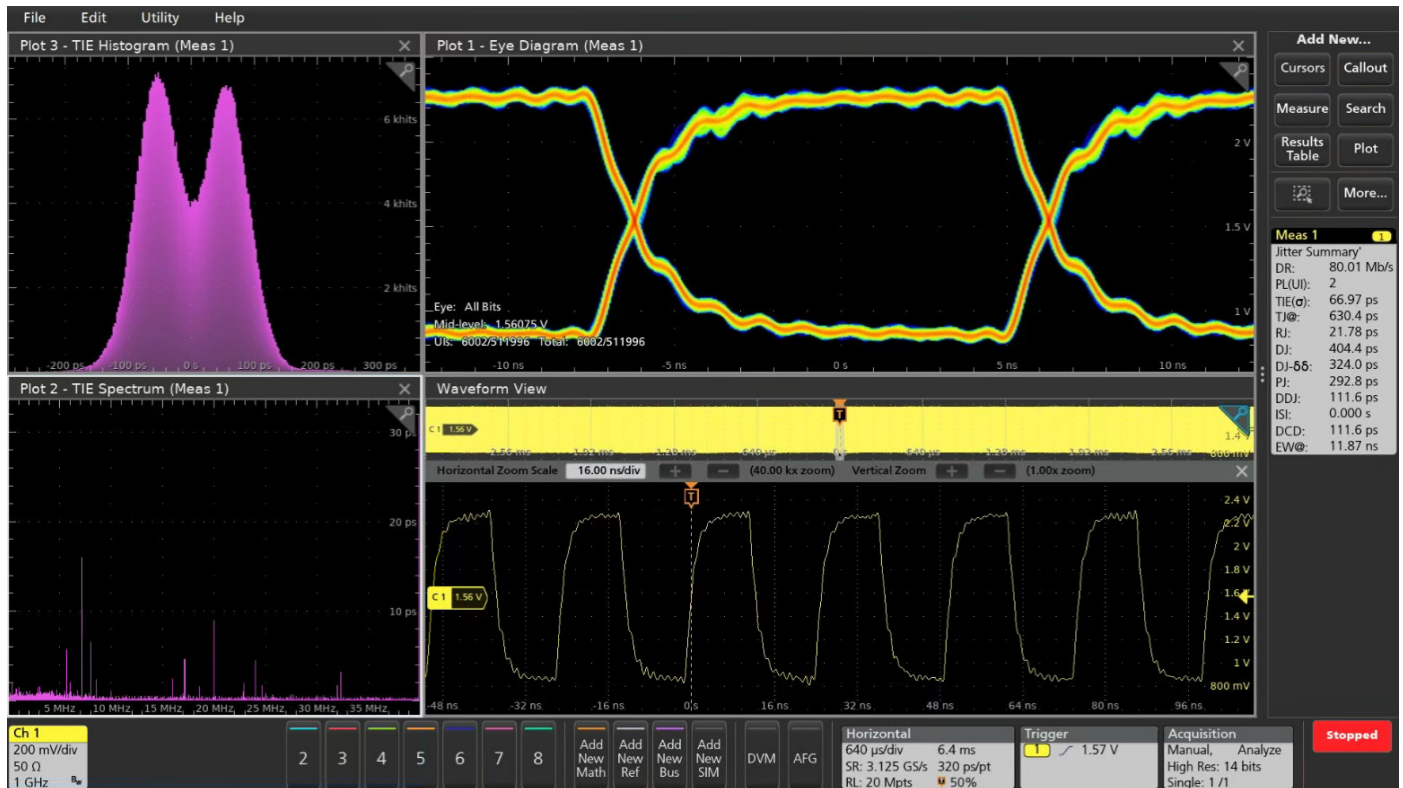

Figure 3. Jitter Summary measurement of a 40 MHz clock using Advanced Jitter Analysis software (option DJA).
Applying the Jitter Summary measurement group in the optional Advanced Jitter Analysis software (option DJA) to the 40 MHz clock reveals some new clues. The Jitter Summary measurement in **Figure 3** renders an eye diagram of the signal, measures TIE, plots the histogram and spectrum of the TIE measurement, and decomposes the jitter into its individual components. Analysis is set to use both edges; this is why you see an eye diagram on a clock signal.
At first glance, the open eye in the eye diagram in **Figure 3** suggests that the clock signal has fairly low jitter based on the thickness of the eye edges. Indeed, the Total Jitter (TJ@BER) measurement value of about ~600ps is about 2% of the 40 MHz clock period. The jitter decomposition shows that the Random Jitter (RJ) component is very small relative to the period of 25 ns.